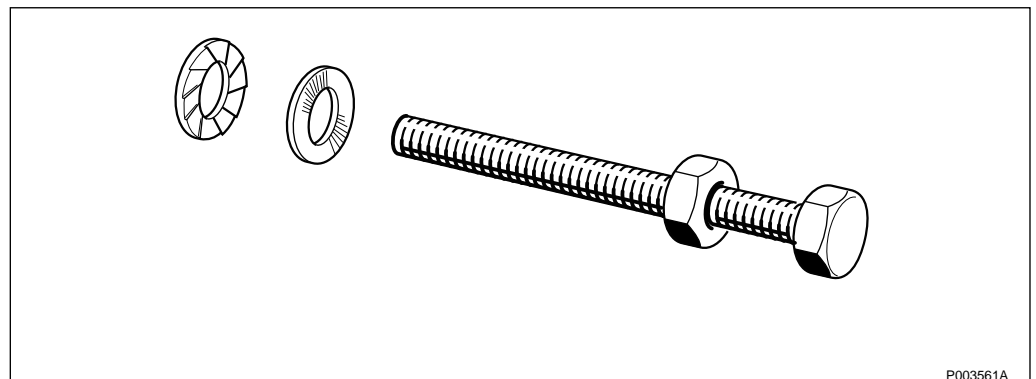

Figure 39 Mounting the washers
5. Make sure that the washers are mounted correctly *see Figure 39 on page 73.*